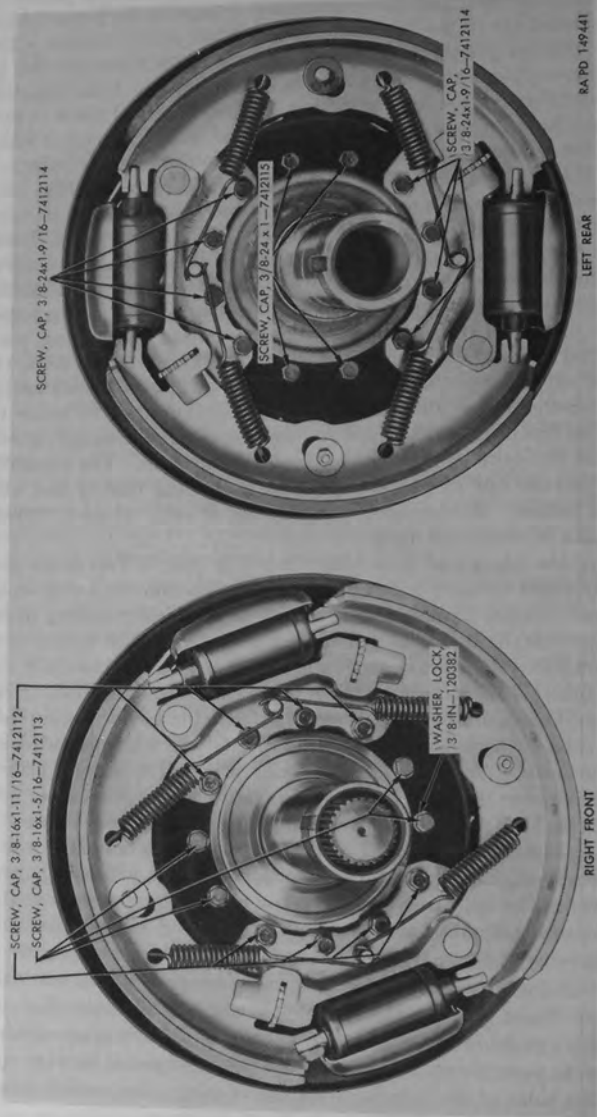
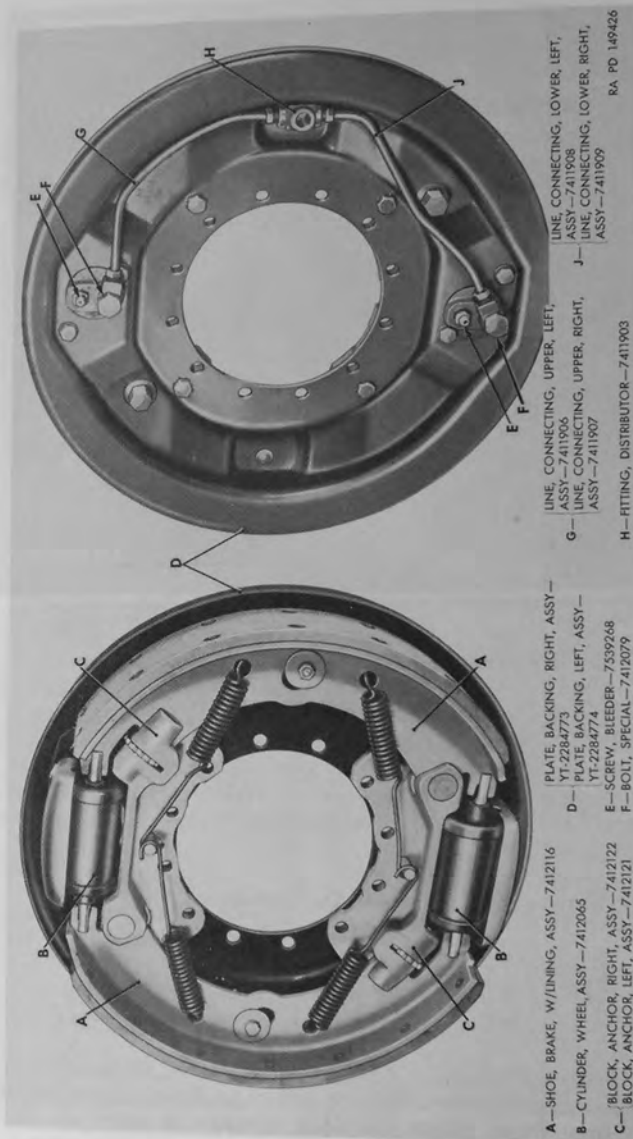

Figure 158. Front and rear brake assemblies installed on axles.
Figure 161. Brake assembly removed from axle.
e. Brake Shoes and Attaching Parts (fig. 158).—Two brake shoes are mounted on each backing plate in conjunction with two anchor blocks. Anchor blocks serve as shoe stops and shoe centering points, and provide the fulcrums around which the shoes pivot during brake application. Four brake shoe return springs at each brake hold shoe ends firmly against anchors when brakes are released. Heel of each shoe anchors against steel pins which pivot in the anchor blocks; toe of each shoe anchors against adjusting screws which are threaded into the anchor blocks. Each anchor block is attached to backing plate by two cap screws threaded into tapped holes in anchor block from inner side of backing plate. Each adjusting screw has two grooves running lengthwise its entire length. Adjusting wheel, assembled in slot in anchor block, has two lugs on its inside diameter which engage the grooves in the adjusting screw. When adjusting wheel is turned by the adjusting stud and gear, it turns the adjusting screw in the anchor block, causing screw to move in or out of block, depending on the direction the adjusting wheel is turned. One-piece lining is attached to each brake shoe by 14 countersunk rivets. All brake shoes and attaching parts on one side of the vehicle, front and rear, are identical. All brake parts shown in figure 163 are interchangeable between right and left sides of the vehicle except the backing plate, anchor blocks, connecting lines, heat shields, and adjusting screws.
d. Remove Brake Assembly.—Remove 12 cap screws and lock washers (fig. 158) attaching brake assembly to steering knuckle support (front), or remove 12 cap screws and safety nuts attaching brake assembly to flange on axle housing (rear). Lift brake assembly (fig. 161) off axle.
- (1) Adjusting screws and anchor blocks used on right side of vehicle have right-hand threads and left-hand threads on left side of vehicle; parts must be assembled and installed accordingly.
- (2) Thread adjusting screw (HH) into anchor block (CC). As end of adjusting screw approaches slot in anchor block, position adjusting wheel (AA) in slot and engage lugs on inside of adjusting wheel in grooves in adjusting screw. Thread adjusting screw in until two threads on screw are exposed at threaded end of anchor block, or until plain end of adjusting screw is below unthreaded end of anchor block to a depth of approximately 1 inch.
- (3) Position assembled anchor blocks on backing plate in positions shown in figure 161, and attach each anchor block to backing plate with two $\frac{3}{8}$ -24 x $\frac{5}{8}$ cap screws (J) and $\frac{3}{8}$ -inch external-teeth lock washers (K). Tighten cap screws firmly.
d. Install Wheel Cylinders and Heat Shields.—Position heat shield (Z) over mounting base on each wheel cylinder assembly (Y) and position wheel cylinders on backing plate. Both wheel cylinders must be positioned with long end toward adjusting screw in anchor block, and right or left heat shields must be used, depending upon which side of vehicle brake assembly is to be used. Attach each wheel cylinder to backing plate with two $\frac{5}{16}$ -18 x $\frac{5}{8}$ cap screws (G) and $\frac{5}{16}$ -inch lock washers (H). Tighten cap screws firmly. Install bleeder screw (F) in upper opening in each wheel cylinder.